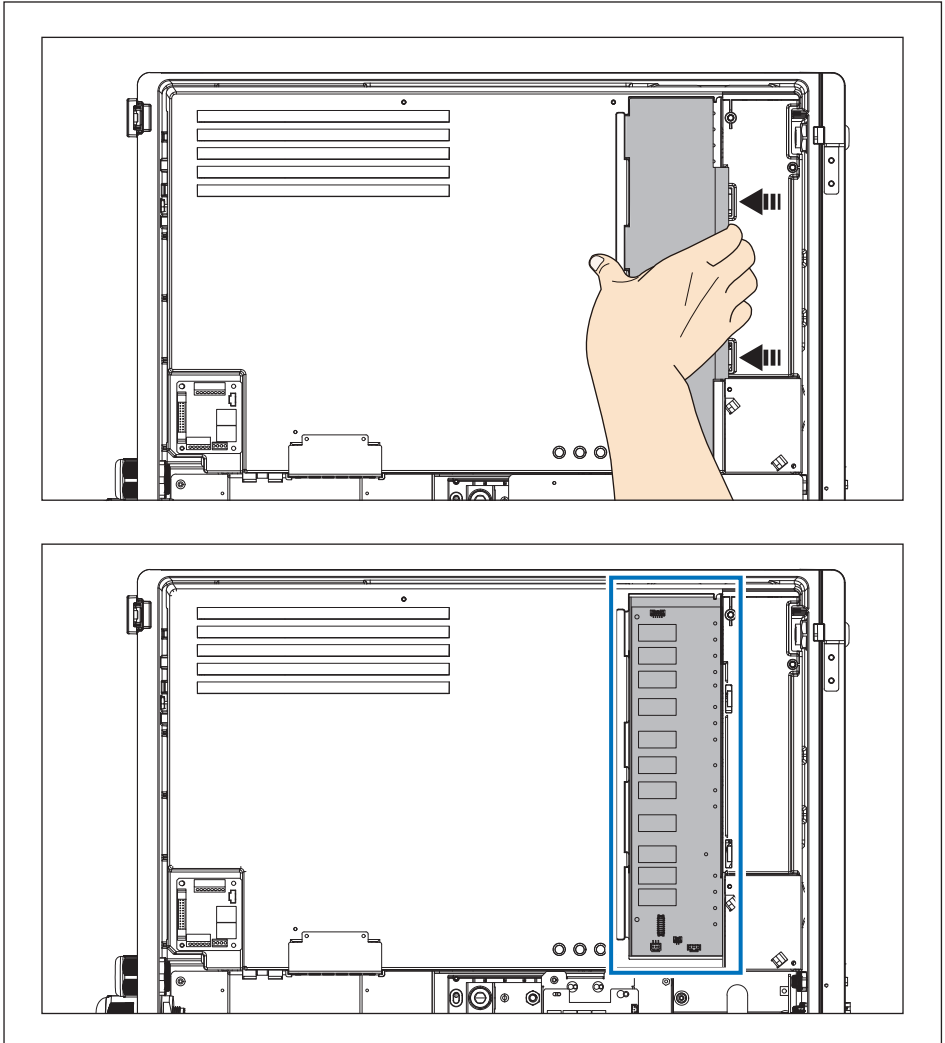

Figure 5-8: Remove the protective cover
3. Press and remove the protective cover. (**Figure 5-8**)